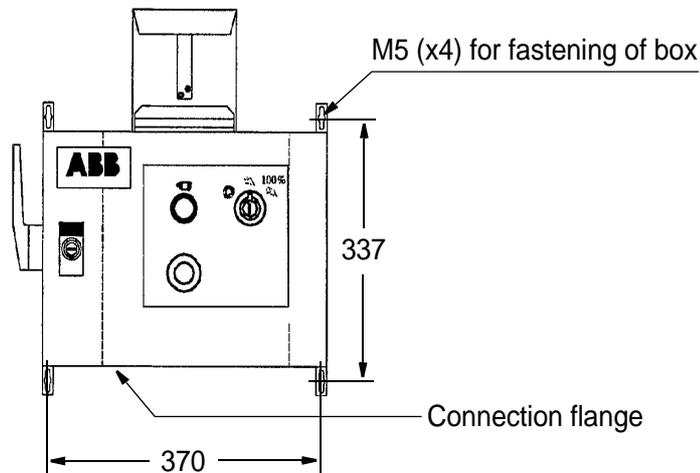

Figure 27 Operator's panel mounted in a box (all dimensions in mm).
**183** External, mounted in a box. (See Figure 27.)